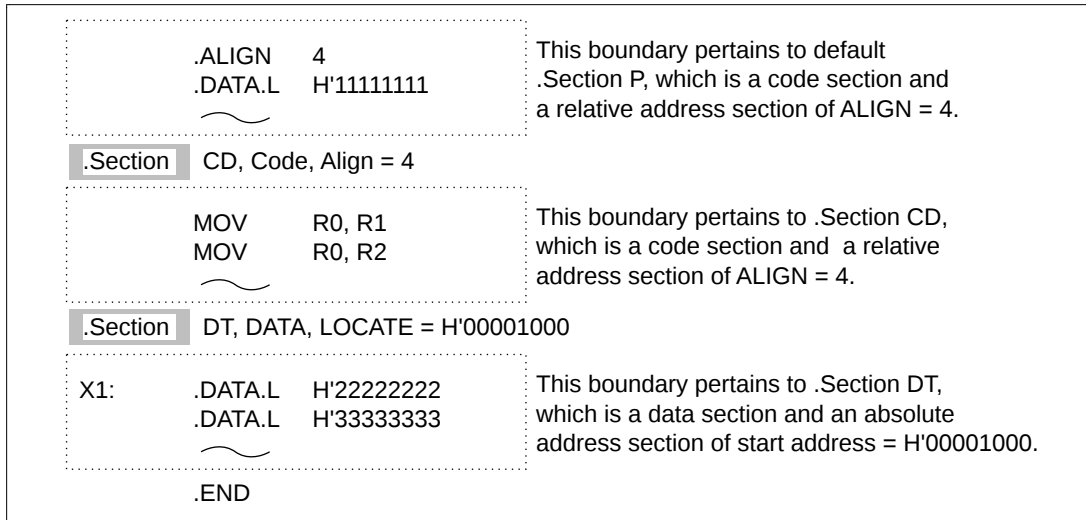

Figure B.2 Example of Section Reopening
- The already declared section can be redeclared in the same file and reopened. The example in figure B.2 illustrates section reopening. In this example, it is assumed that .SECTION should not appear in source statement groups 1–3.